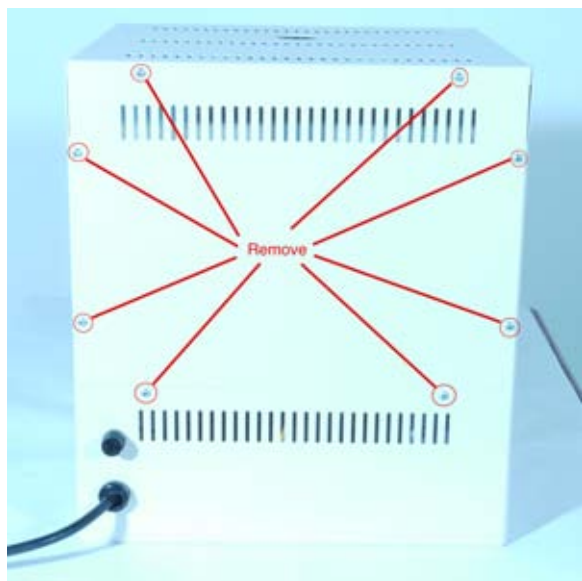

Figure 1
- Begin by removing the screws on the back and sides of the kiln as indicated by Figures 1 and 2.